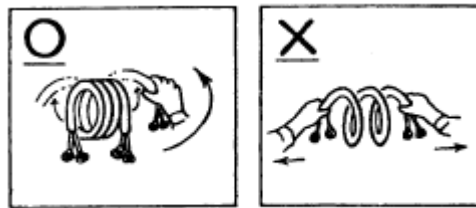

Fig. 21
2. When doing this, let it go loose coil by coil naturally and do not pull it by force, or the pipe may be twisted (See. Fig. 21)